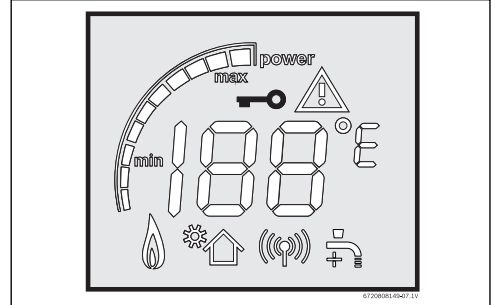

Fig. 8 Key symbol
2. The key symbol must appear on the display (Fig. 8).